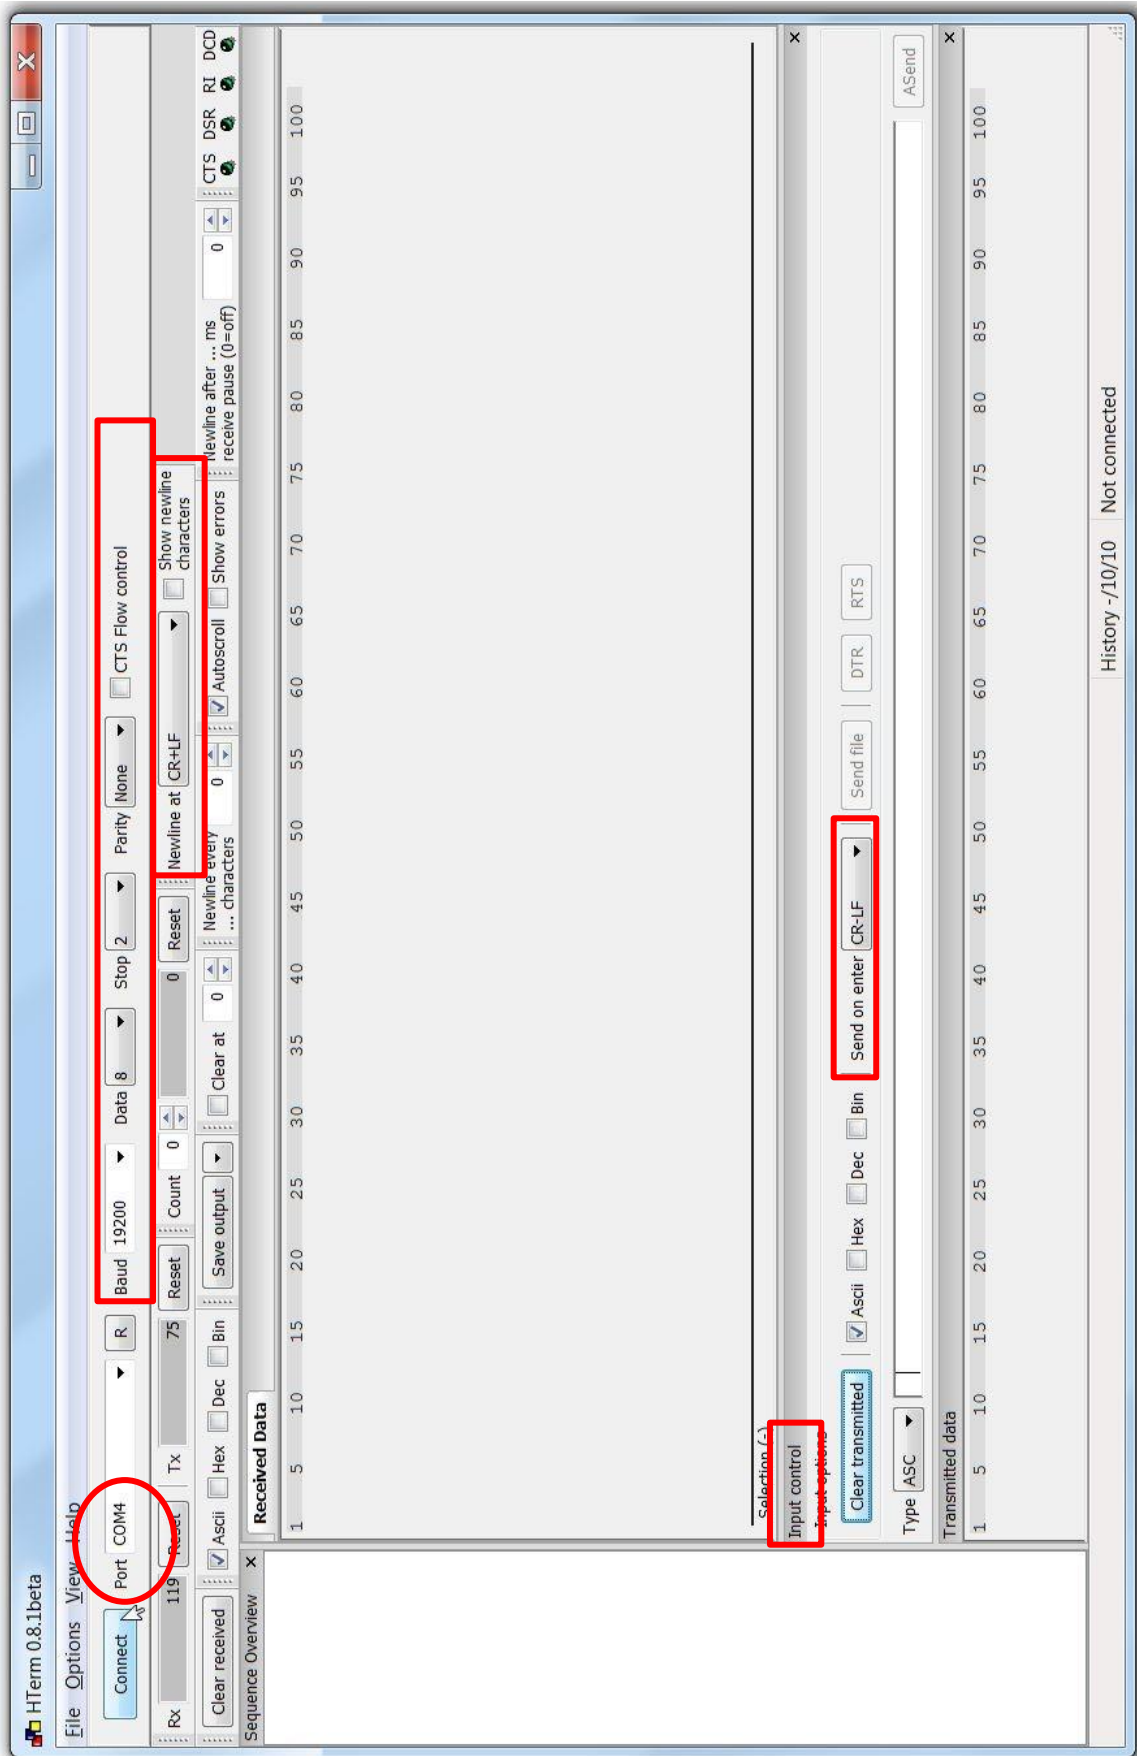

Fig. 2.1 Connection parameters for HTerm (Windows)
- 5.) Choose the appropriate COM-Port from the drop-down-list and set connection parameters listed in Tab. 2.1. (independent of software used). In *HTerm* you will find it in the drop-down list of the main window, see **Fig.2.1**.
Click “Connect” in the upper left corner. “Received Data” window should be blank (Fig 2.1).
- 7.) To unlock access type the following command in the command line of the “Input Control” window (lower left) in Fig. 2.1 and press Enter: